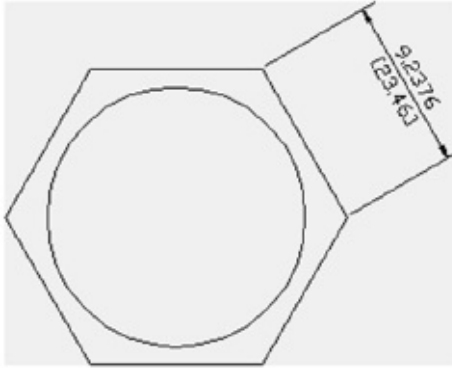

FIGURE 11.24 The aligned dimension of a nonorthogonal line
4. At the Specify dimension line location or [Mtext/Text/Angle]: prompt, pick a point near coordinate 34,24. The dimension appears in the drawing, as shown in Figure 11.24.